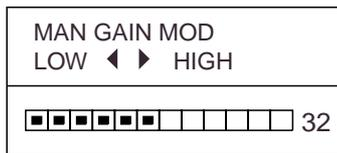

Figure 2-6 Dialog box for manual adjustment of gain
2. Press the [GAIN] key once or twice to display the screen shown in Figure 2-6.